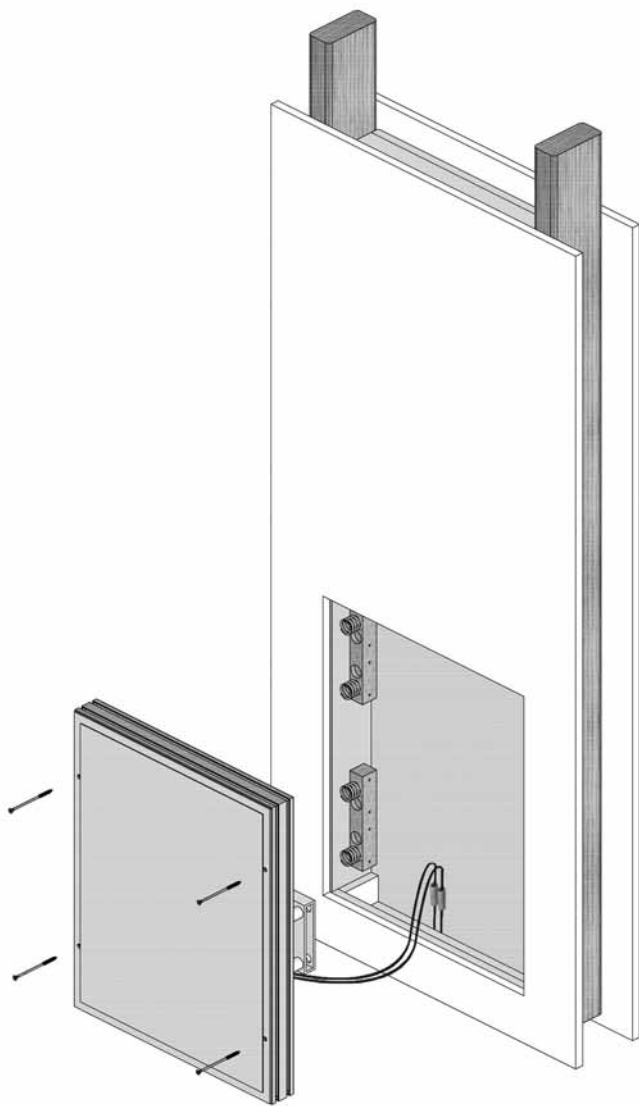

Figure 4
4. Install the Subwoofer using the supplied #7 x 3", screws. The appropriate square-drive bit is also supplied for your convenience. **Figure 4.**